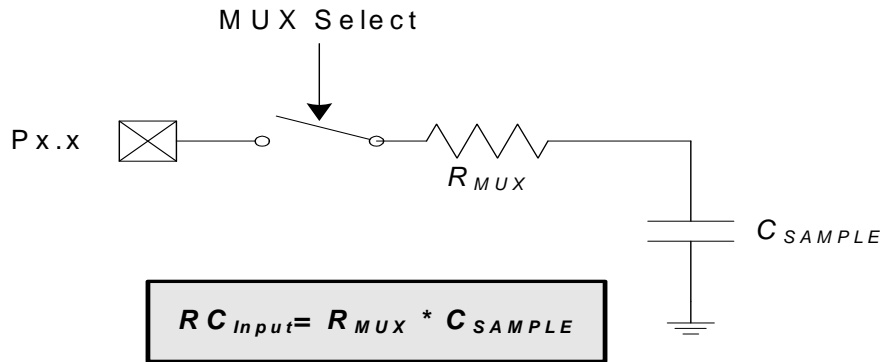

Figure 6.5. ADC0 Equivalent Input Circuit
Figure 6.5 shows the equivalent ADC0 input circuit. The required ADC0 settling time for a given settling accuracy (SA) may be approximated by Equation 6.1. When measuring the Temperature Sensor output, use the settling time specified in Table 5.10 on page 50. When measuring V_{DD} with respect to GND, R_{TOTAL} reduces to R_{MUX} . See Table 5.9 for ADC0 minimum settling time requirements as well as the mux impedance and sampling capacitor values.